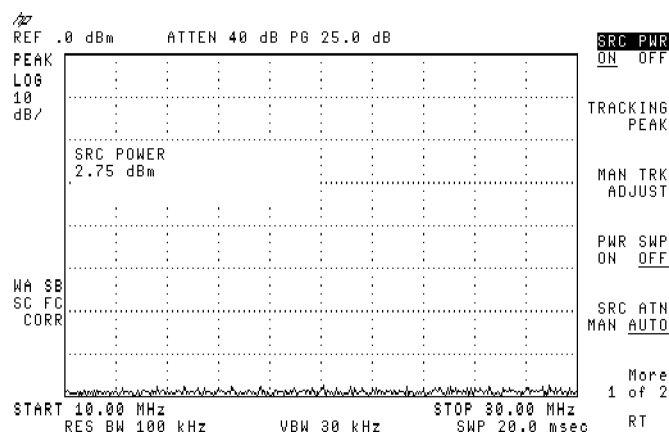

Figure 3-16. Turning On the Tracking Generator
10. Press 2.75 and **[+ dBm]**. The tracking generator is now turned on. Notice that the **SCR PWR** softkey has toggled to ON. See Figure 3-16.